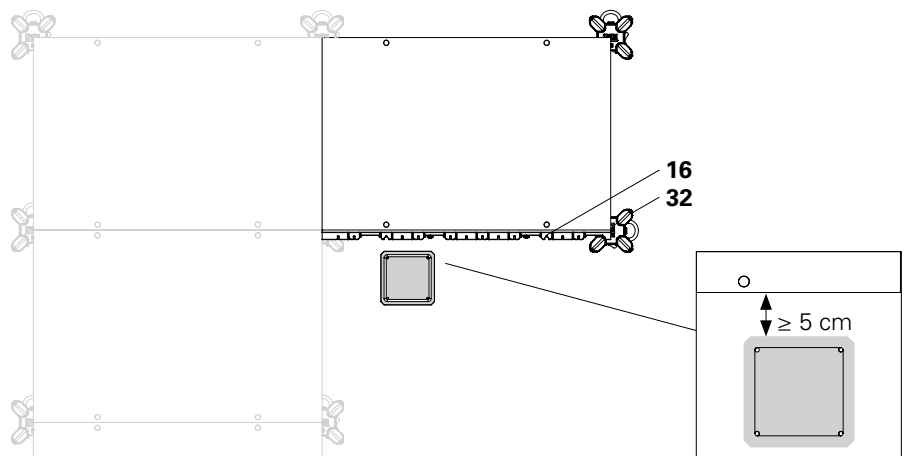

Fig. D3.06a
1. Form the slab with DP panels (10) as far as possible to the column, see section D2.
2. Depending on the remaining dimension, select a standard panel or a panel (10) with a small width. Distance to the column ≥ 5 cm. (Fig. D3.06a)
5. Place the slab prop with DFH prop-head (32) at the end of the panel in an inclined position from the inside and align outwards. (Fig. D3.06a)